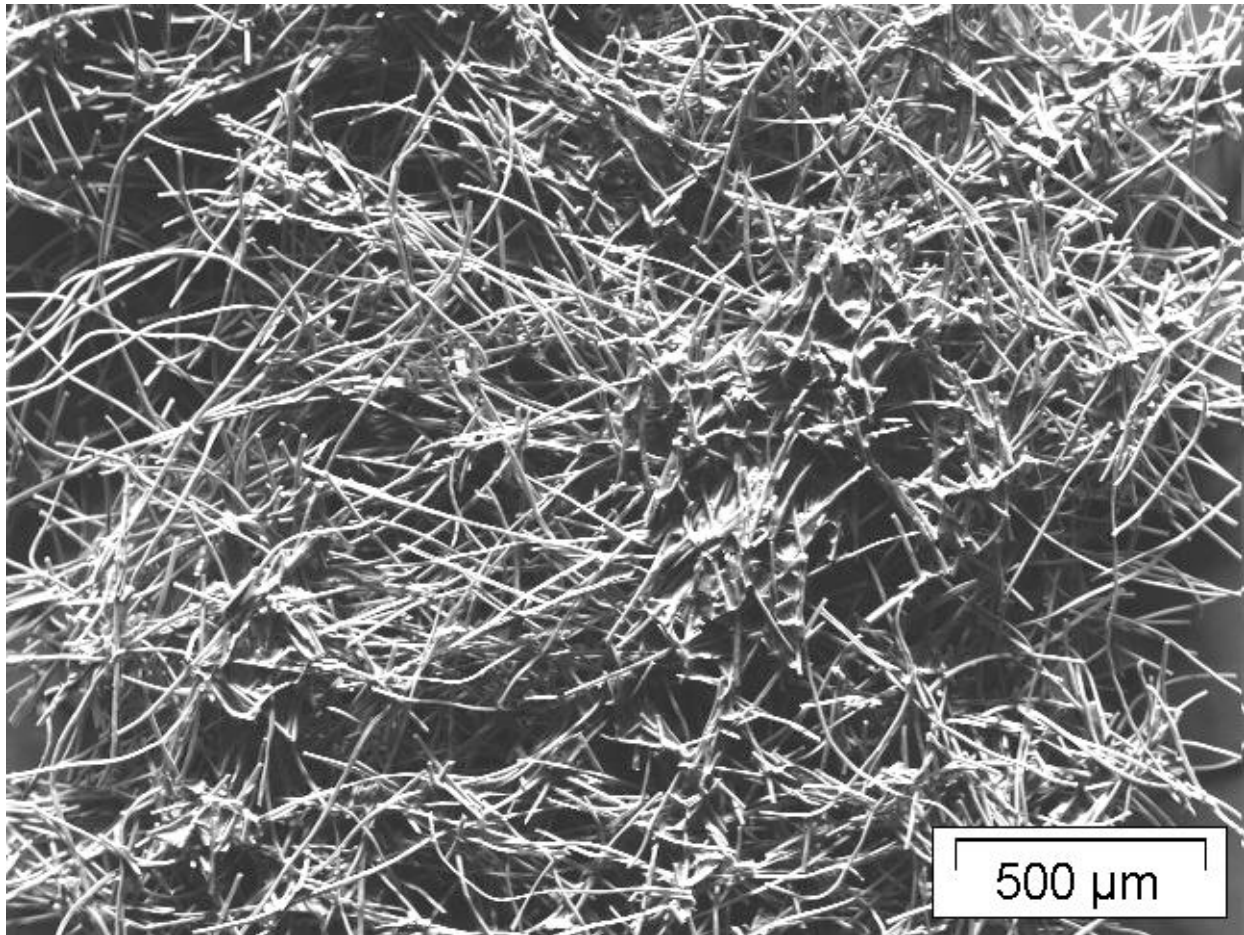
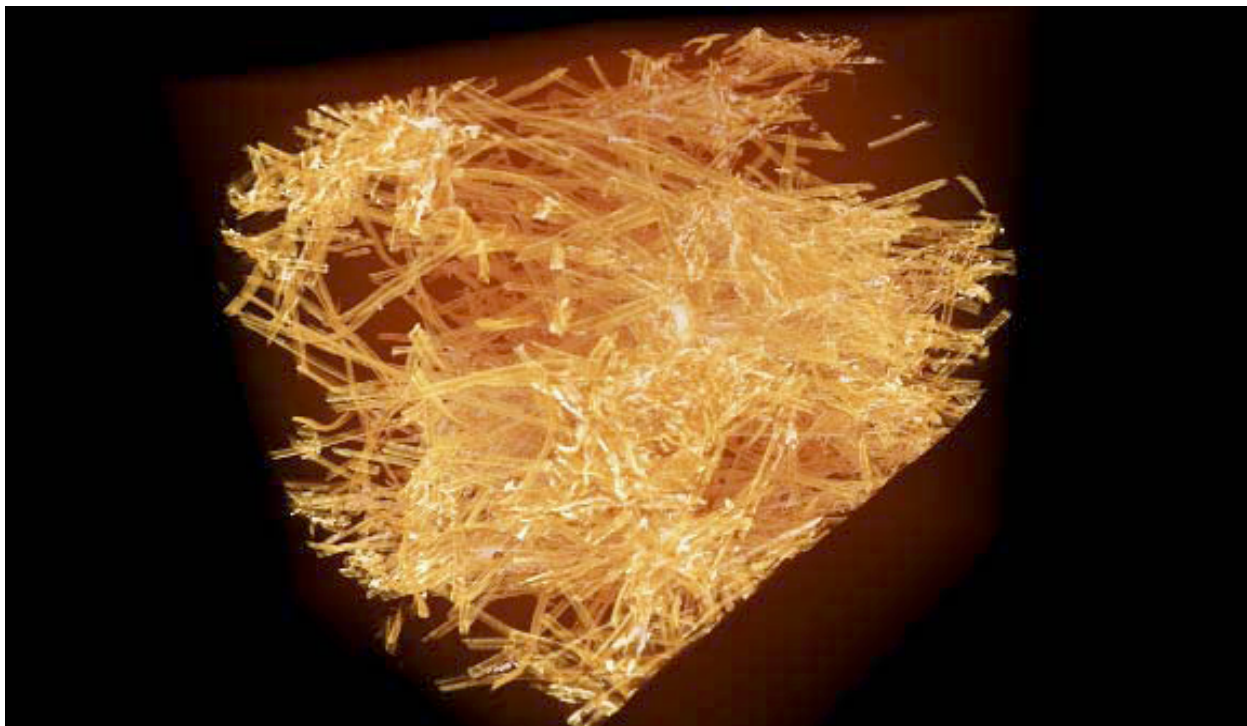

Figure 1. Micrograph of surface ablated PICA char
Figure 14. Example of 3D CT image of a Fiberform® sample
Micrographs of PICA (Phenolic Impregnated Carbon Ablator) taken using a Scanning Electron Microscope (SEM) and 3D images taken with a Computed Tomography (CT) system are examined. PICA is a carbon fiber based composite (Fiberform®) with a phenolic polymer matrix. The micrographs are taken at different surface depths and at different magnifications in a sample after arc jet testing and show different levels of oxidative removal of the charred matrix (Figs 1 through 13). CT scans, courtesy of Xradia, Inc. of Concord CA, were captured for samples of virgin PICA, charred PICA and raw Fiberform (Fig. 14). We use these images to calculate the thermal conductivity (TC) of these materials using correlation function (CF) methods. CF methods give a mathematical description of how one material is embedded in another and is thus ideally suited for modeling composites like PICA. We will evaluate how the TC of the materials changes as a function of surface depth. This work is in collaboration with ETH-Zurich, which has expertise in high temperature materials and TC modeling (including CF methods).